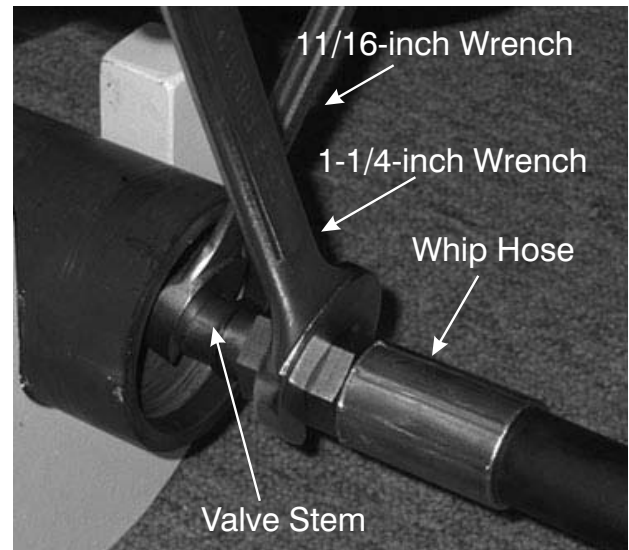

Figure 8-13. Loosen Hex Fitting and Remove Whip Hose
4. While holding the Valve Stem in position with the 11/16-inch open-end wrench, fit a 1-1/4-inch open-end wrench across the flats of the Whip Hose Hex Fitting as shown in Figure 8-13.